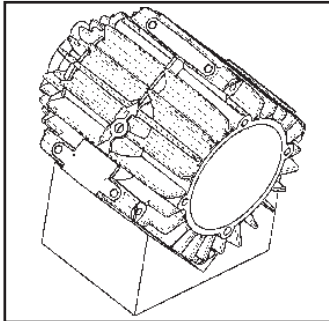

Figure 25
1. Stand the compressor body, ports down, on "V" blocks or packing as shown in Figure 25. Use care during the assembly process to avoid any contamination. All internal surfaces of the body, rotor, blades and sideplates MUST be free of all debris or grease.